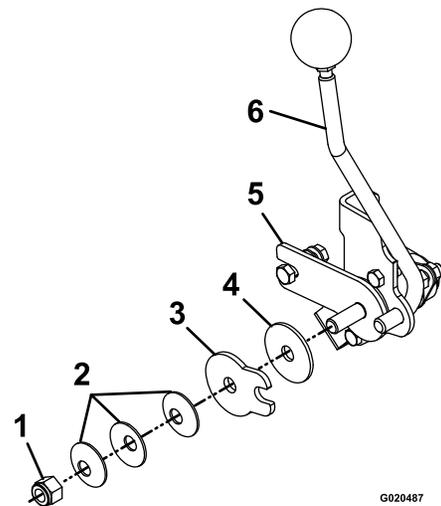

Figure 62
3. To adjust the tension, adjust the pivot nut, which is located at the end of the motion-control shaft in front of the right console (Figure 62).